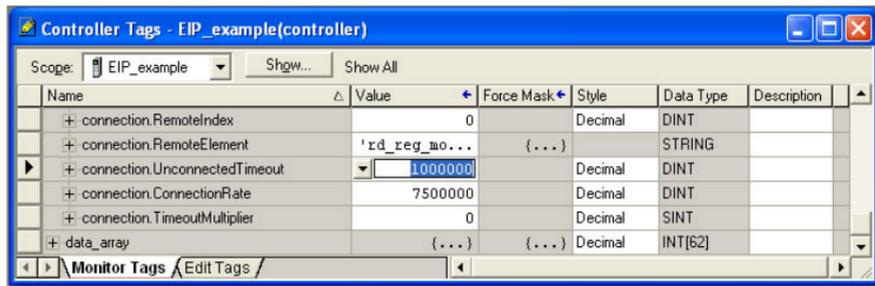

Figure 38: Reduce the UnconnecteTimeout Value
- e) Select the “Monitor Tags” tab. Expand the “connection” tag by clicking on the “+” sign next to the tag name. Scroll down to the connection.UnconnectedTimeout field and change its value from the default 30000000 (30s in 1uS increments) to 1000000 (1s). This value determines how long to wait before timing out and retransmitting a connection request if a connection failure occurs. Refer to Figure 38.